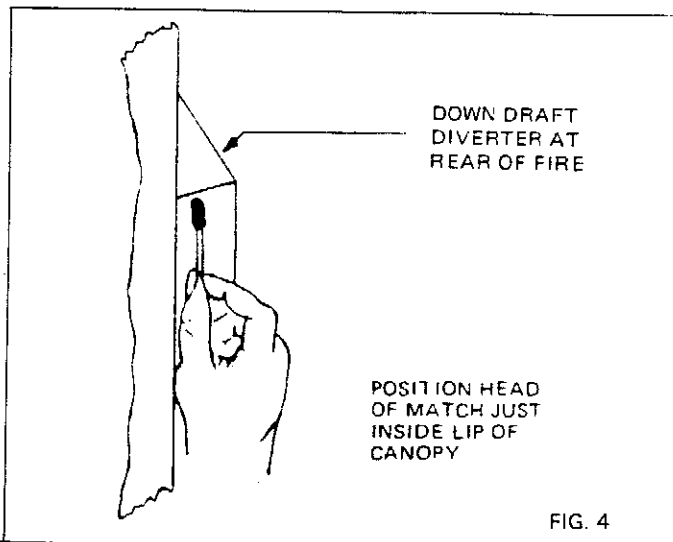

FIG. 4
- After a few minutes, test with a smoke match that there is "pull" on the edge of the draft diverter (see Fig. 4). If the flue is blocked, or has strong reverse flow, the thermally actuated safety switch mounted in the draft diverter opening, will automatically shut off the gas supply within about 5 minutes.